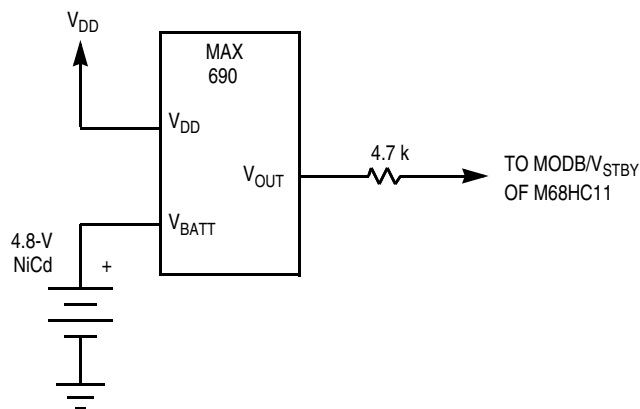

Figure 2-8. RAM Standby MODB/ V_{STBY} Connections
2. In the second method, the MODB/ V_{STBY} pin can supply RAM power from a battery backup or from a second power supply. **Figure 2-8** shows a typical standby voltage circuit for a standard 5-volt device. Adjustments to the circuit must be made for devices that operate at lower voltages. Using the MODB/ V_{STBY} pin may require external hardware, but can be justified when a significant amount of external circuitry is operating from V_{DD} . If V_{STBY} is used to maintain RAM contents, reset must be held low whenever V_{DD} is below normal operating level. Refer to **Section 5. Resets and Interrupts**.